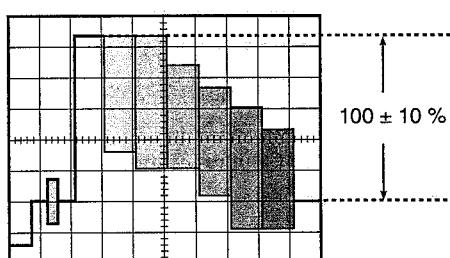

Fig. 4-3
- Adjust VR2 so that the White signal level becomes $100 \pm 10\%$ as shown in Fig. 4-3.